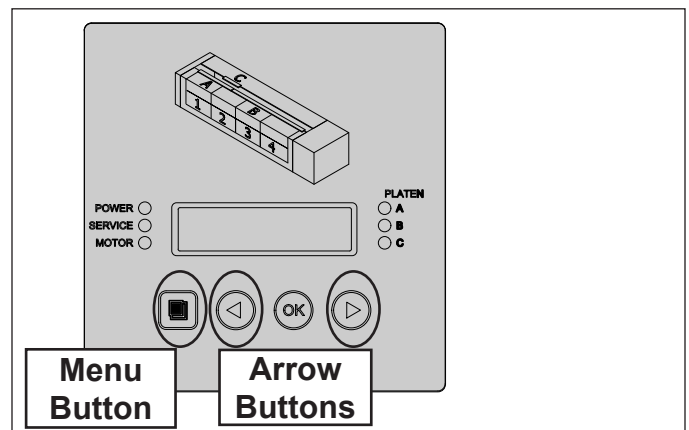

Figure 5. HEBT-5V Control Panel
- a. Press and hold the **MENU** button for five seconds (Figure 5). The control panel displays “A Platen.”
1. Set the unit to display temperatures in degrees Fahrenheit (steps 1a and 1b). Press and hold the MENU button for five seconds (Figure 5). The control panel displays “A Platen.”
1. When the unit is plugged in, press and hold the **MENU** button (Figure 5) for five seconds. The control panel displays "A Platen." The display scrolls to show the actual temperature, SSR Duty cycle, and the setpoint.